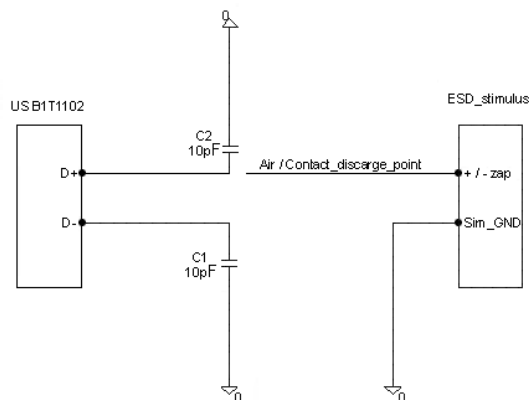

Figure 5. IEC 61000-4-2 ESD Test Model
The IEC 61000-4-2 standard covers ESD testing and performance of finished equipment and evaluates the equipment in its entirety for ESD immunity. Fairchild Semiconductor has evaluated this device using the IEC 6100-4-2 representative system model depicted in Figure 5. Under the additional standards set forth by the IEC, this device is also compliant with IEC 60749-26 (HBM) and IEC 60749-27 (MM).